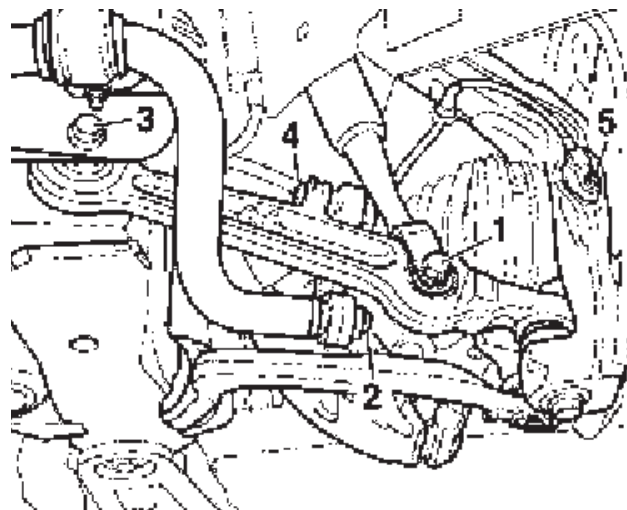

fig. 2
2. Remove lower shock bolt from track control link (bolt 1 in fig 2)
3. Disconnect the stabilizer bar (bolt 2 or 4 in fig 2)
4. Unbolt the track control link from the chassis (bolt 3 in figure 2)
3. Loosely install the clevis bolt into the lower control arm (fig. 2). Also, loosely reinstall the track link to chassis bolt (fig. 2). Loosely reattach the sway bar (fig. 2). **Do not tighten these at this time.**